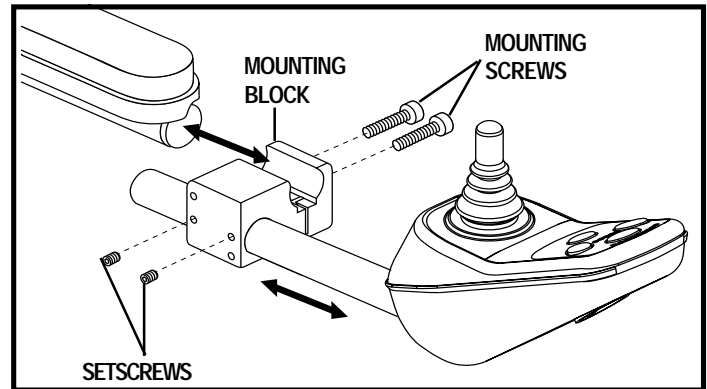

Figure 15. Controller Position - Mounting Block Shown
1. Install the controller into the mounting block or under the armrest. See figure 15 or 16.
6. Loosen the mounting screws in the mounting block. See figure 15.